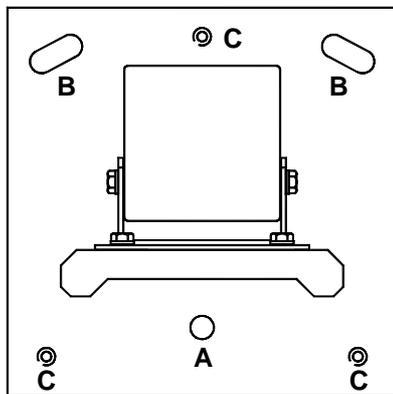

Figure 7
a) Rotational/ angular adjustment - slacken the securing screws A & B, rotate the floor post around axis A until alignment is achieved and then fully tighten all securing screws. See Figure 7.
b) Tilt adjustment- slacken the securing screws A & B and adjust the jacking screws C until correct alignment is achieved. Fully tighten securing screws A & B. See Figure 7.